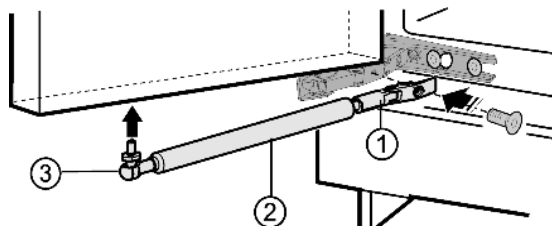

Fig. 3
- ▶ Screw on retainer Fig. 3 (1).
- ▶ Screw in ball stud *Fig. 3 (3)* together with the soft stop mechanism *Fig. 3 (2)* in the fastening hole.